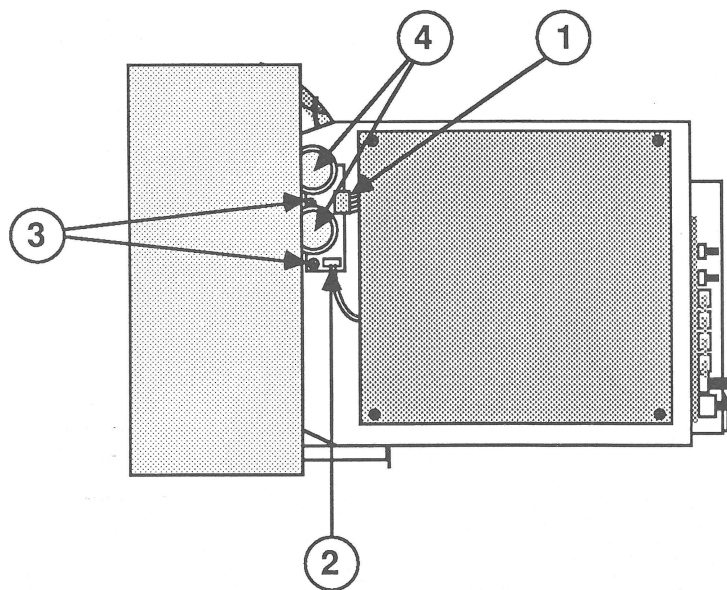

FIGURE 29
4. Disconnect the yellow four-wire connector J-21 (Figure 29, #1) and the white two-wire connector J-8 (Figure 29, #2) from the contrast control board.
5. Remove the two screws (Figure 29, #3) that secure the contrast control board to the chassis frame.
6. Pull the knobs (Figure 29, #4) off the contrast control board, and save them to put on the replacement board.
1. Install the customer's knobs (Figure 29, #4) on the replacement contrast control board.
2. Place the contrast control board on the chassis frame and replace the two screws (Figure 29, #3).
3. Reconnect the yellow four-wire connector J-21 (Figure 29, #1) and the white two-wire connector J-8 (Figure 29, #2) to the contrast control board.